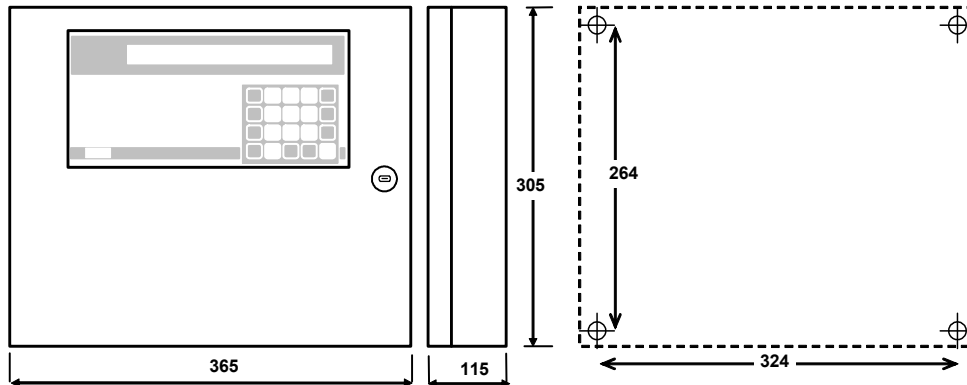
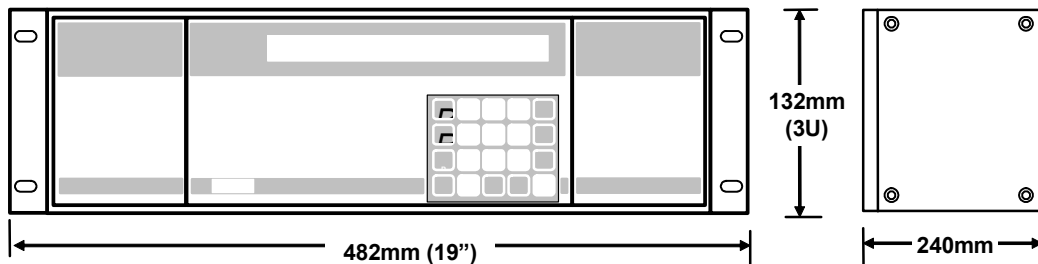

Fig 4 – CE700P Dimensions
Fig 6 –CE700R Dimensions
This central should be wall mounted by fixing the cabinet, in vertical position, by the four holes that are in the corners of the back panel. (Fig. 4) The wiring connections should be executed all on the back panel and on the power supply. The main power supply (230Vac – 50Hz) should be connected to the terminal of the power supply (Fig.6).
Inside the CE700P cabinet, it can also accommodate a 12V/7Ah Pb battery connection (see Fig.5 and Fig.6) to assure the system powering in case of mains blackout.
The RS485 serial port COM2 is the (1) polarized terminal (Fig. 6), we recommend using appropriate lugs to the wires (2) and anchor cables to the structure to avoid excessive stress to the circuit and the terminals themselves.
The connections should be made on the back of the rack, as shown below in Fig. 6. We suggest to fix the wires to the box structure to avoid excessive stress to the terminals.